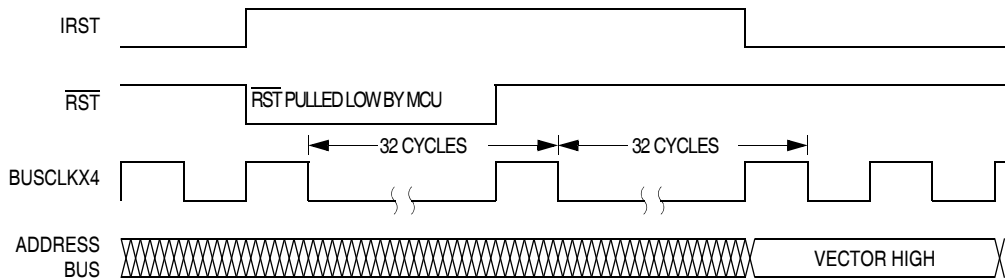
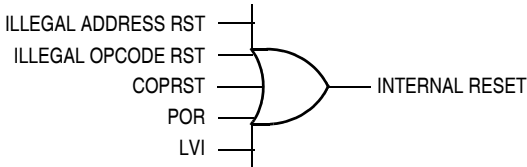

Figure 13-4. Internal Reset Timing
Figure 13-5. Sources of Internal Reset
*For POR and LVI resets, the SIM cycles through 4096 BUSCLKX4 cycles. The internal reset signal then follows the sequence from the falling edge of  $\overline{\text{RST}}$  shown in Figure 13-4.*
All internal reset sources actively pull the  $\overline{\text{RST}}$  pin low for 32 BUSCLKX4 cycles to allow resetting of external peripherals. The internal reset signal IRST continues to be asserted for an additional 32 cycles (see Figure 13-4). An internal reset can be caused by an illegal address, illegal opcode, COP time out, LVI, or POR (see Figure 13-5).